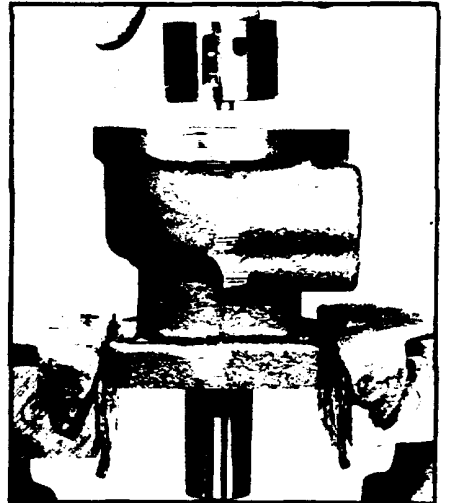

Figure 44
13. Install commutator (9) assembly into housing (15) commutator bore. SEE FIGURE 44, The commutator must not be cocked as it enters the bore and the drive pin (10) must be in line with the coupling shaft (11) commutator drive pin slot indicated by the timing mark. Engage the drive pin (10) protruding from the commutator into the coupling shaft drive pin slot, rotating the coupling shaft if necessary. The commutator must be below the housing wearplate surface when correctly seated. SEE FIGURE 45.